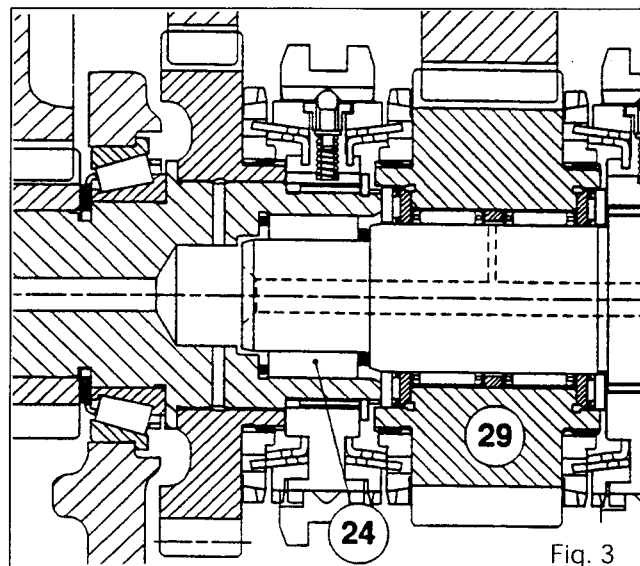

Fig. 3
17. Reinstall the needle-roller bearing (24), in the bore in the mainshaft, with the small diameter on the flexible bush facing the 3rd speed driving gear (Hare) (29) (Fig. 3).
19. Fit a circlip (49) of minimum thickness.
20. Fit the cup (37).